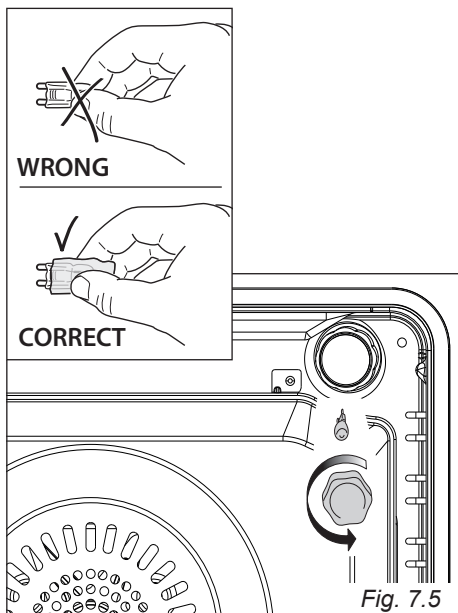

Fig. 7.5
- Remove the protective cover (fig. 7.5 - 7.6).
- Hold the door as shown in fig. 7.5.